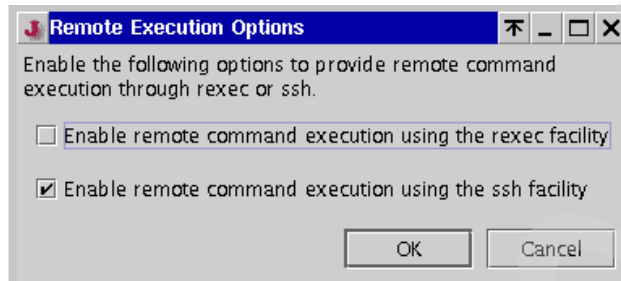

Figure 4-17 Remote Execution Options window
3. Select the appropriate check box in the window shown in Figure 4-17.